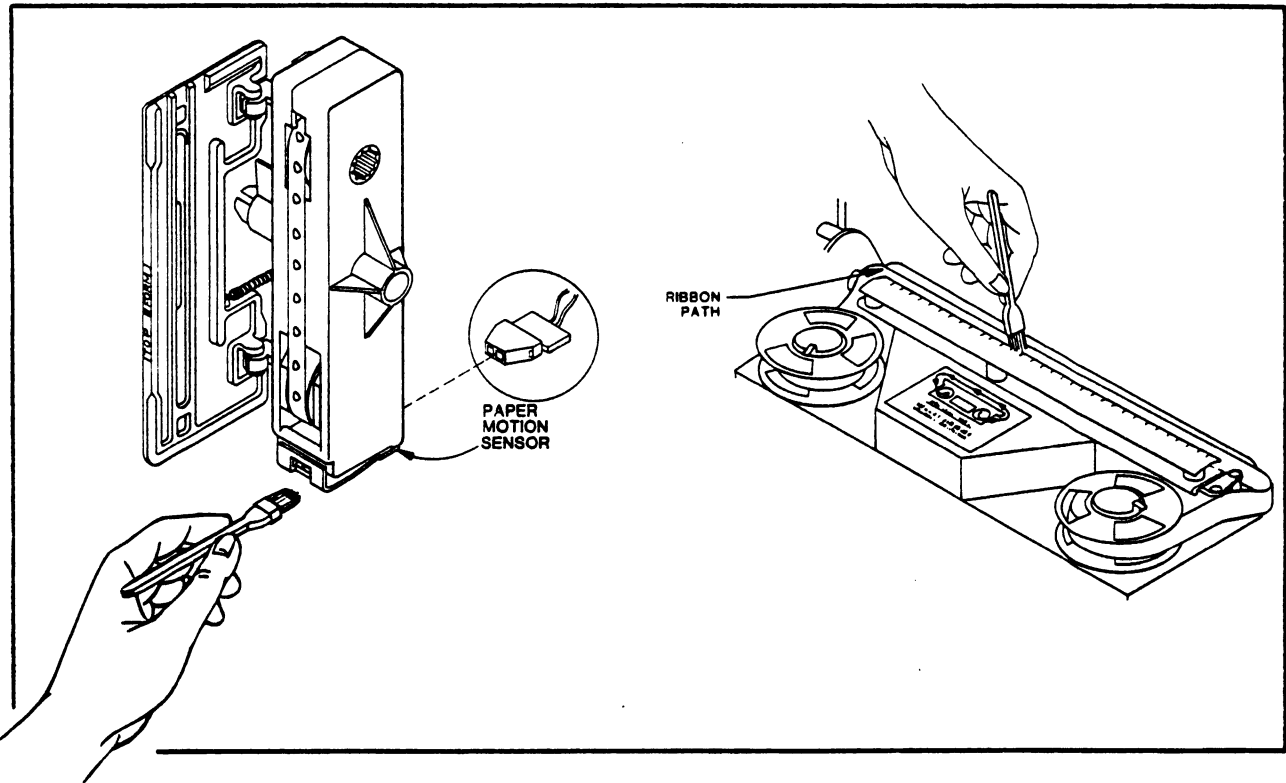

FIGURE 2-10.
2. Use a soft bristled brush to clean the ribbon path areas and the paper motion sensor of any debris or ribbon chaff (Figure 2-10).